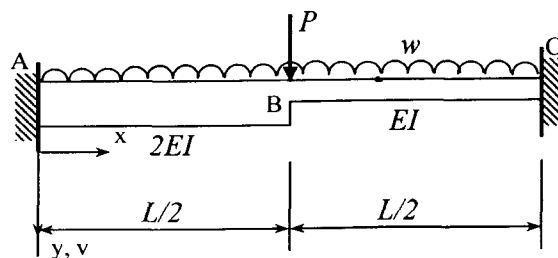

Figure 6
- (b) The stepped beam with both end fixed as shown in Fig.6 is to be analysed using piecewise Rayleigh-Ritz method where the beam will be divided artificially into two portions <A-B> and <B-C>. The beam is subjected to a uniformly distributed load w and a point load P at B.